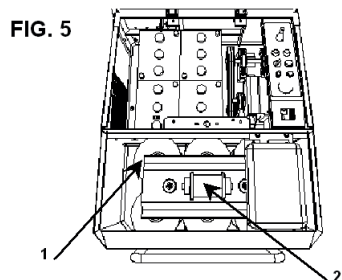
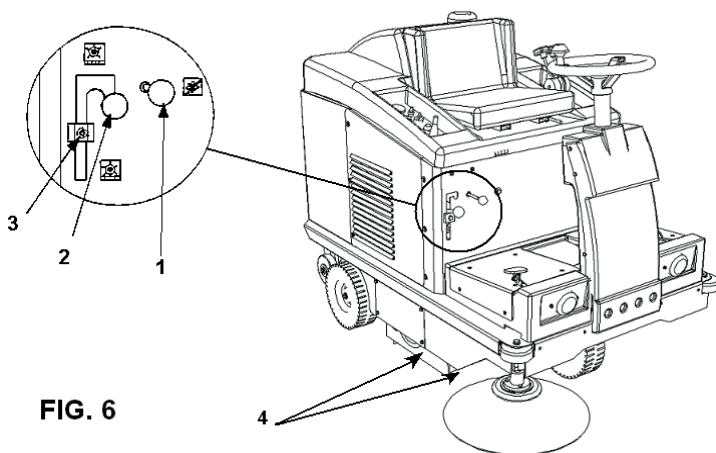

FIG. 5
FIG. 6
During operation, the filter system ensures that the machine does not raise dust in the surrounding areas. It consists of six cartridge filters **Part. 1 Fig. 5**. The filter system can be disengaged by pulling knob **Part. 1**, seen in **Fig. 6**.
See **Part. 4 Fig. 6**. These seals surround the central brush and are very important for ensuring good machine operation, making possible as they do the suction effect. Frequently check to make sure they are in good condition.
Fitted to both models **Part. 1 Fig. 6**. When this knob is pulled outwards, suction is disengaged. Disengage the suction every time the filters need shaking or when passing over damp areas (with the motor on).
This lever **Part. 2 Fig. 6** makes it possible to engage and disengage the centre brush. By sliding the lever down along the slot, the work position is lowered, while when the lever is slid upwards and inserted in the notch, the centre brush is disengaged.
**Part. 3** This buzzer cleans the suction filters through a motor-vibrator **Part. 2 Fig. 5**; it must be pressed at least 6 / 7 times for 8 / 10 seconds each (operation to be performed before starting work, before emptying the bin and with the motor off); to perform this operation with motor running, close the suction by pulling the knob **Part. 1 Fig. 6**.